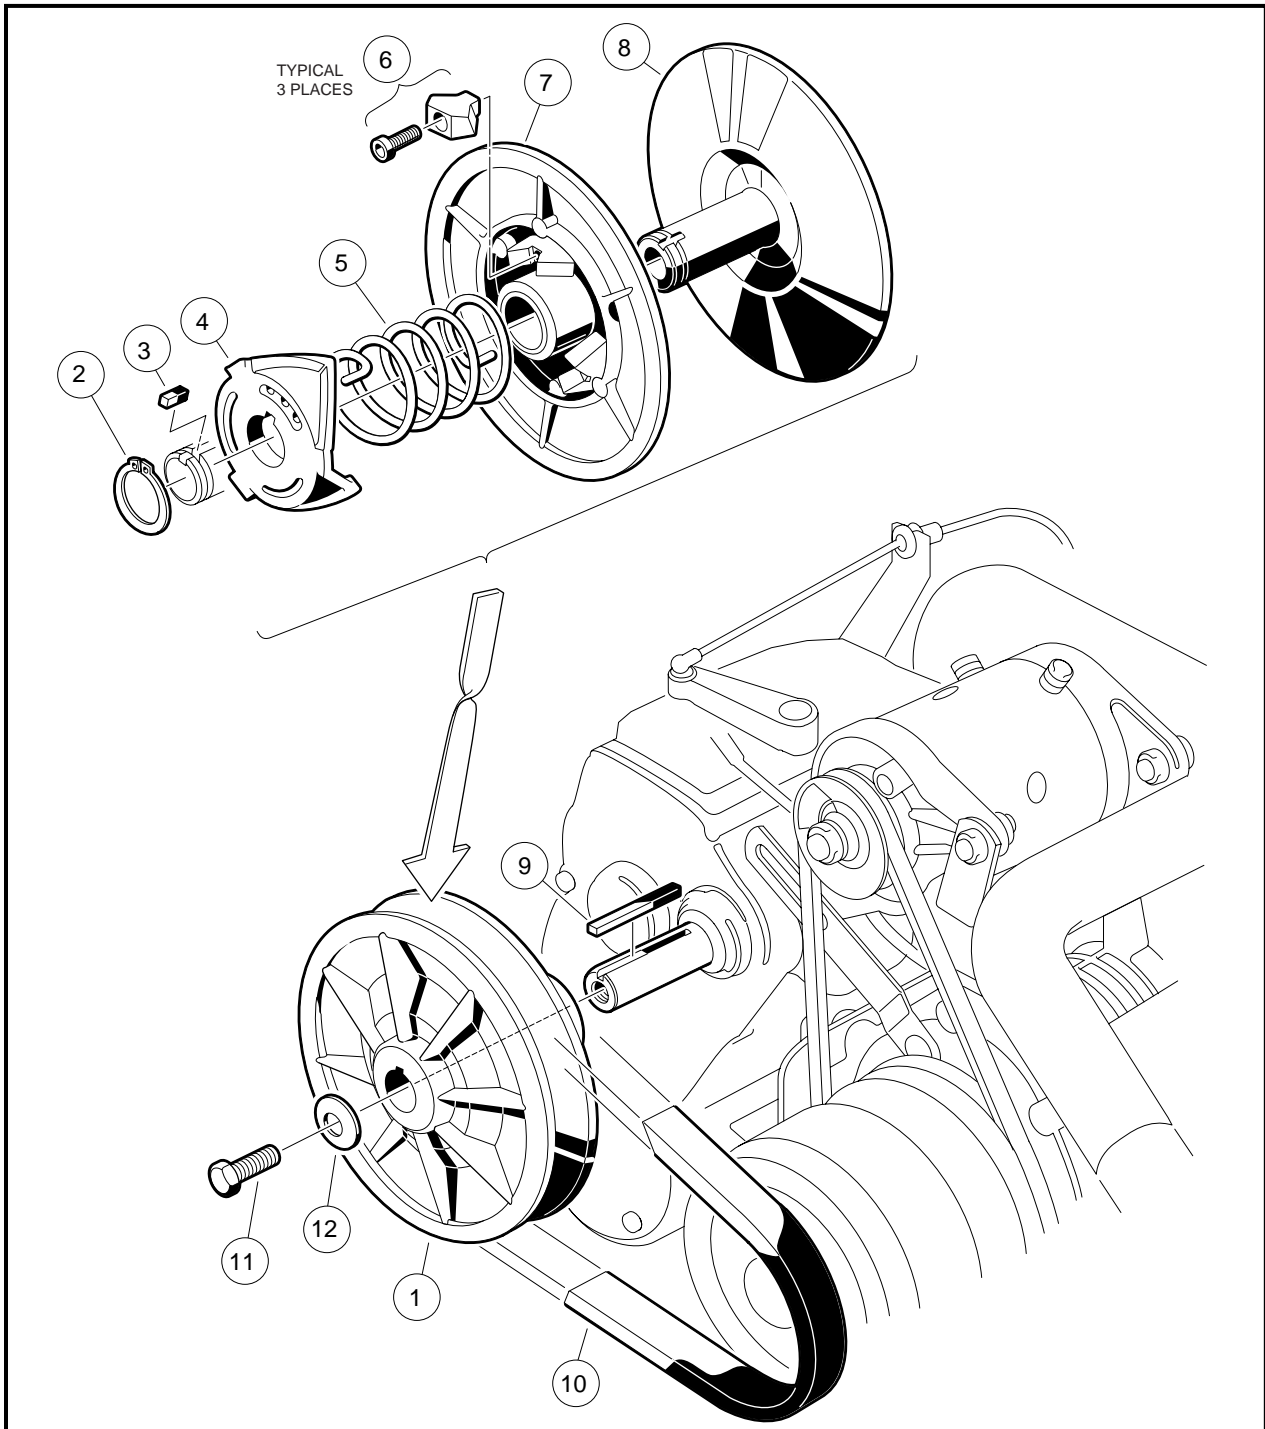
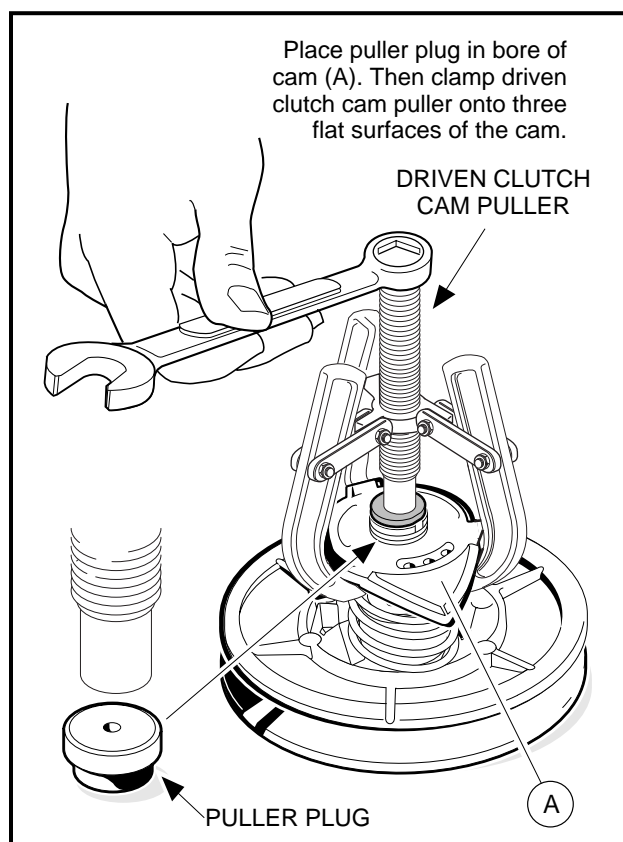
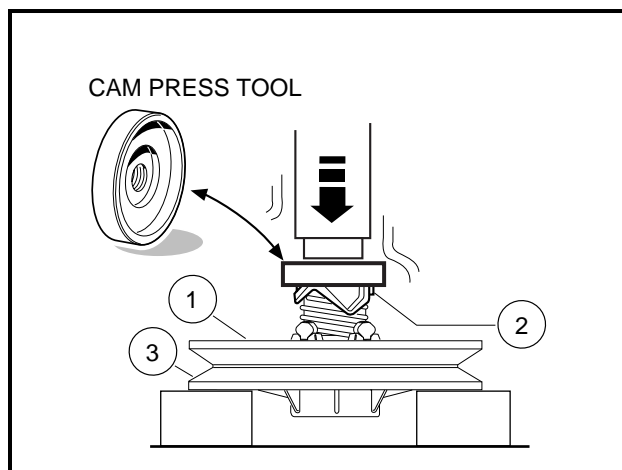

Figure 17-16 Driven Clutch Assembly
Figure 17-18 Driven Clutch Disassembly
Figure 17-19 Cam Press Tool
2. Remove the bolt (11) and mounting washer (12) from the clutch shaft (**Figure 17-16, Page 17-12**).
4. Leave the key (9) in the keyway (**Figure 17-16, Page 17-12**).
2. Insert a puller plug (Club Car Part No. 1014507) (**Figure 17-18, Page 17-13**) into the shaft bore and use a driven clutch cam puller (Club Car Part No. 1014508) to remove the cam (4) from the fixed face shaft (8) (**Figure 17-16, Page 17-12**).
3. Remove the spring (5) (**Figure 17-16, Page 17-12**).
4. Retain the key (3).
5. Slide the moveable face (7) off the fixed face shaft (8) (**Figure 17-16, Page 17-12**).
1. Inspect the cam (4) for excessive wear. Replace it if necessary (**Figure 17-16, Page 17-12**).
2. Inspect the drive buttons (6) for excessive wear. Replace if necessary. To remove the drive buttons, remove the socket head cap screws and then the buttons (**Figure 17-16, Page 17-12**).
1. Place the three drive buttons (6) in position. Apply one drop of Loctite® 222 to each of the socket head cap screws and then install and tighten them to 8 in-lb (0.9 N·m) (**Figure 17-16, Page 17-12**).
2. Slide the moveable face assembly (7) onto the fixed face shaft (8) (**Figure 17-16, Page 17-12**).
3. Place the end of the spring (5) into the hole in the moveable face assembly.
4. Install the key (3) into the keyway of the fixed face assembly (8) shaft (**Figure 17-16, Page 17-12**).
5. Holding the cam (4) in position for assembly on the shaft, install the other end of the spring (5) into the center spring hole of the cam. Rotate the cam until the keyway is aligned with the key (3) on the fixed face assembly, and then start the cam onto the shaft approximately 1/4 to 3/8 inch (6.3 to 9.5 mm).
6. Place the clutch assembly in a press and position the cam press tool (Club Car Part No. 101809101) on the cam as shown (**Figure 17-19, Page 17-14**).
7. Hold the fixed face assembly (3) and rotate the moveable face assembly (1) one-third turn **clockwise**, then press the cam (2) onto the fixed face assembly (**Figure 17-19, Page 17-14**).
8. Install the retaining ring (2) (**Figure 17-16, Page 17-12**). See following NOTE.
1. To install the driven clutch, reverse the removal procedure. Before tightening the center bolt (11) to 14 ft-lb (19.0 N·m), make sure the mounting washer (12) is installed between the center bolt and the clutch (yellow side facing out) **(Figure 17-16, Page 17-12)**.